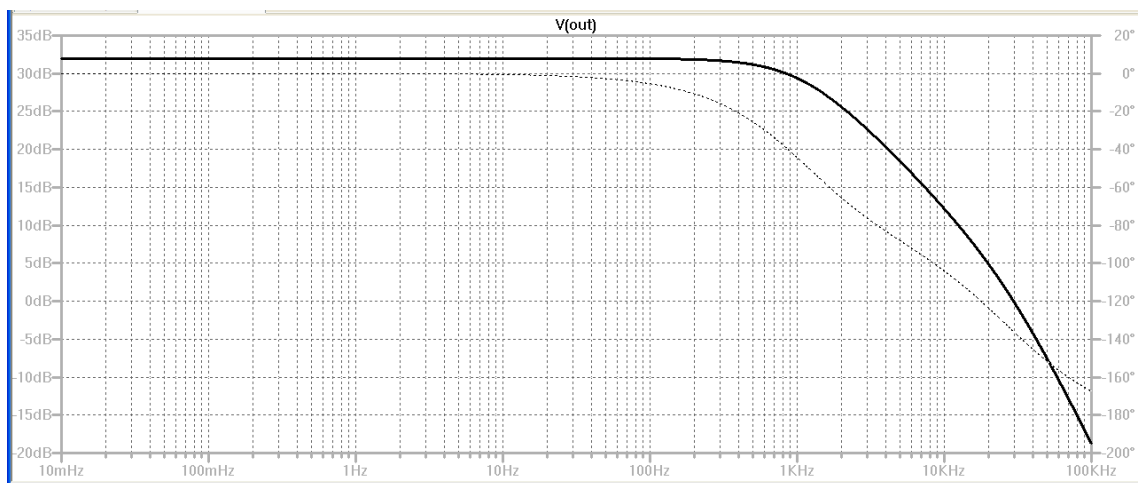

Figure 2: Expected Frequency Response.
- 5.3.4. Once the measurement has finished, open Matlab and run *GS13_preamp_TF_processing.m*. There should be a pole at 1.2kHz +/- 1dB and a nominal gain of 32dB +/- 1dB. Enter values in spreadsheet for testing records. The plot should look similar to Figure 2.